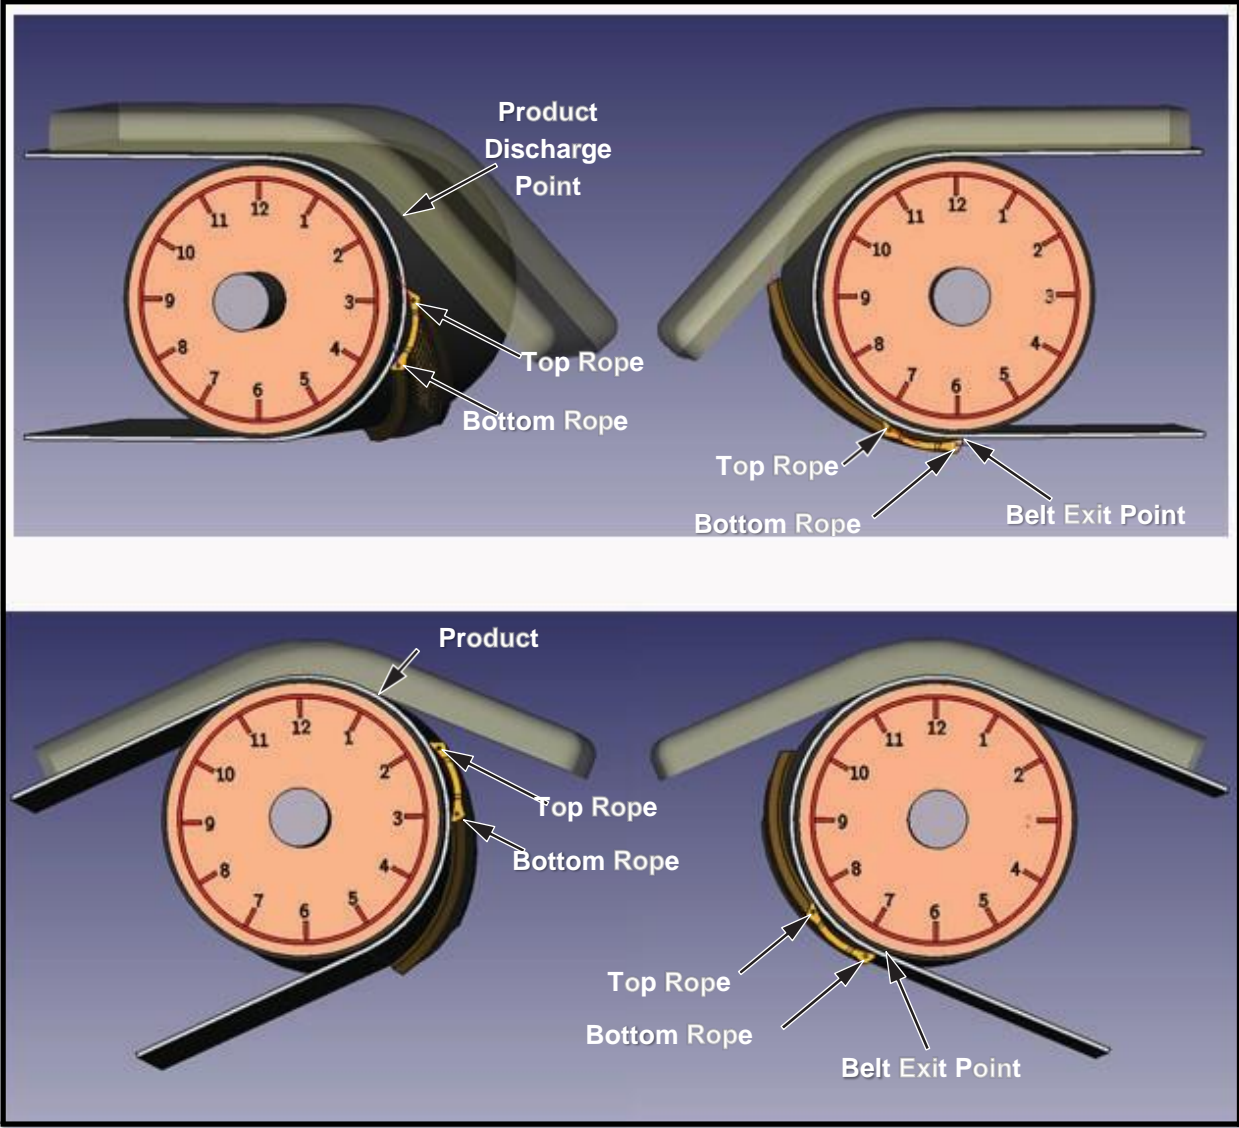
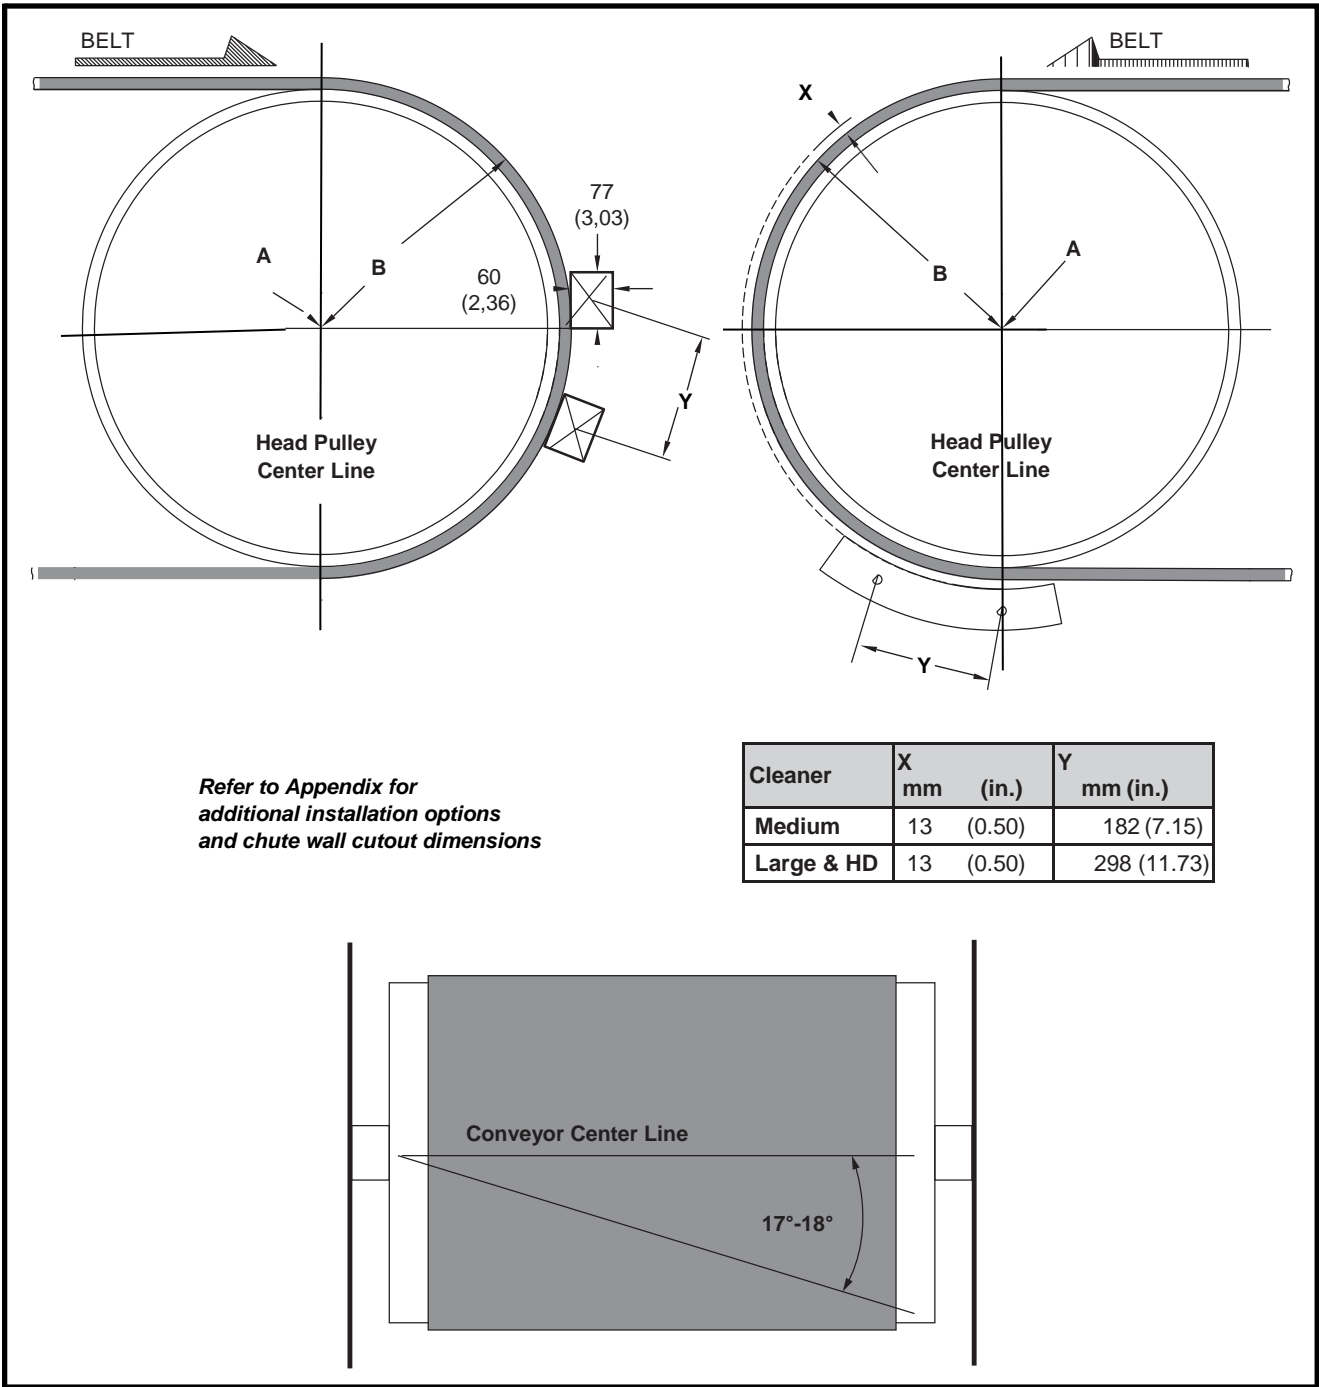

Figure 2: Typical Belt Cleaner Mounting Positions
Figure 6: Belt Cleaner Location & Chute Wall Cutouts
1. On both sides of chute, find pulley center point (A).
2. Measure radius of head pulley including lagging and belt thickness (B). To this dimension, add dimension X from Figure 6.
3. On the far side of chute, start from center point (A), measure the total distance calculated in step 2 ($B + X$), and draw an arc on chute wall.
4. On the operator side of chute, start from center point (A), draw an arc on chute wall with a radius of (B).
- a) Draw a centerline of the head pulley perpendicular to the conveyor belt line (see Figure 6). Rotate the bottom side mount back as far as possible in order to achieve at least 17° of belt wrap while not exceeding the belt exit (see Figures 2 & 3).
- (1) Position fixed point bracket on far side chute wall as shown in Figure 6 (centerline install is used as an example).
- (2) Mark bracket hole locations.
- (3) Drill or cut two 13 mm (1/2-in.) holes for screws in far side chute wall.
- (4) Mount fixed point bracket to inside of far side chute wall using countersunk screws (B) and nuts.
- (2) Weld bracket to chute wall. Weld completely around bracket. Do not skip weld
- b) Draw a line at 17° from bottom hole of bottom bracket to location of bottom hole on top bracket, or utilize a string or elastic band to locate proper angle. Attach string to bottom hole on bottom bracket and hold it to head pulley centerline at 6:00 o'clock position on opposite chute, check angle, adjust angle to stay below product discharge point (see Figures 2 & 3). Mark location for bottom hole of top side tensioner.
- c) Position weld plate as shown in Figure 6. The edge of the cutout should be tangent to the belt edge. Mark chute wall cutout as shown in Figure 6.
- d) Mark upper bracket chute wall cutout as shown in Figure 6. Dimension Y is equal to the distance between mount holes on far side bracket.